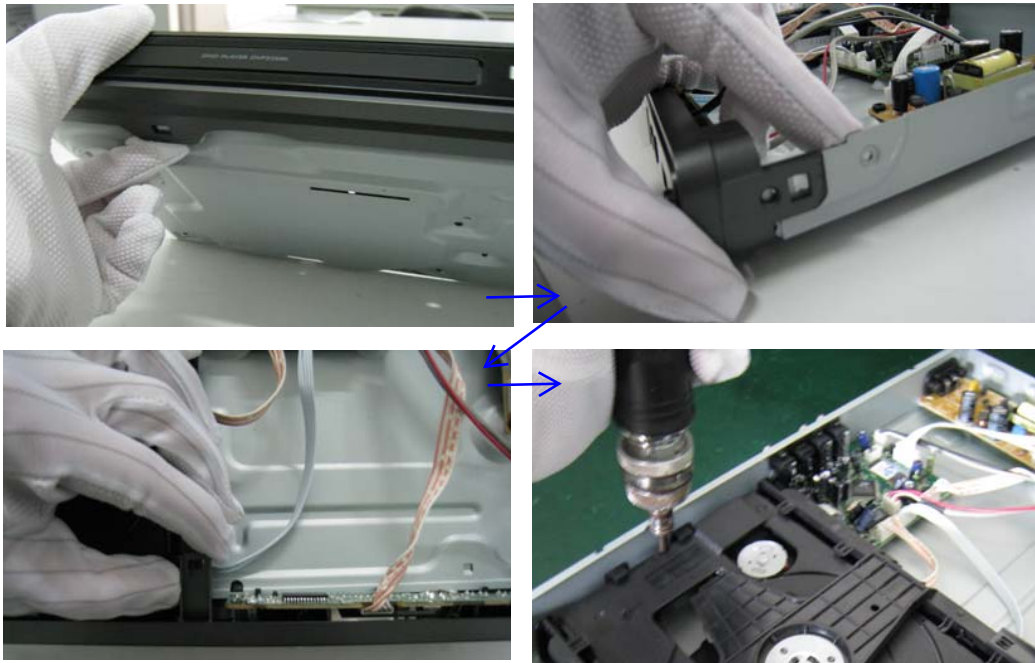

Figure 5
Step5: Dismantling Loader, disconnect the 3 connectors (XP2, XP3, XP4) aiming in the below figure, and remove 1 screw that connects the loader and the bottom cabinet. (Figure 5)